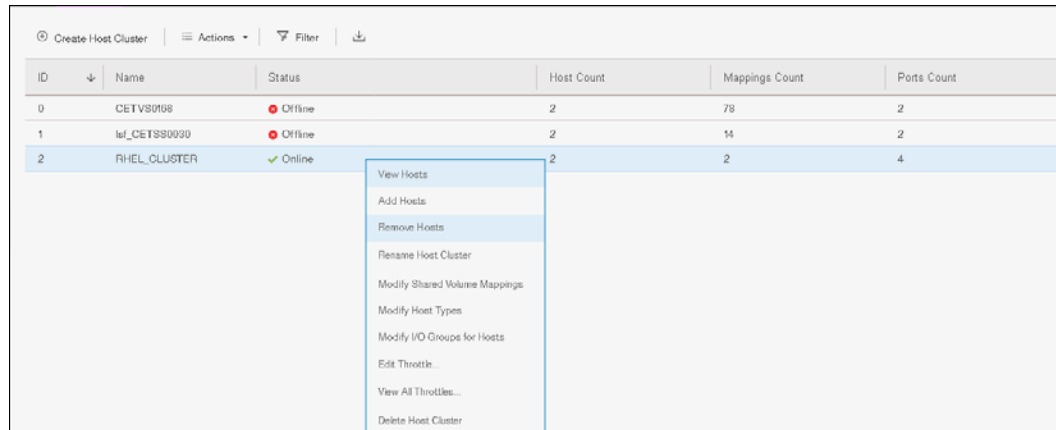

Figure 5-102 Removing hosts from host cluster
- Right click on the desired host cluster and select **Remove Hosts** as shown in Figure 5-102 on page 259